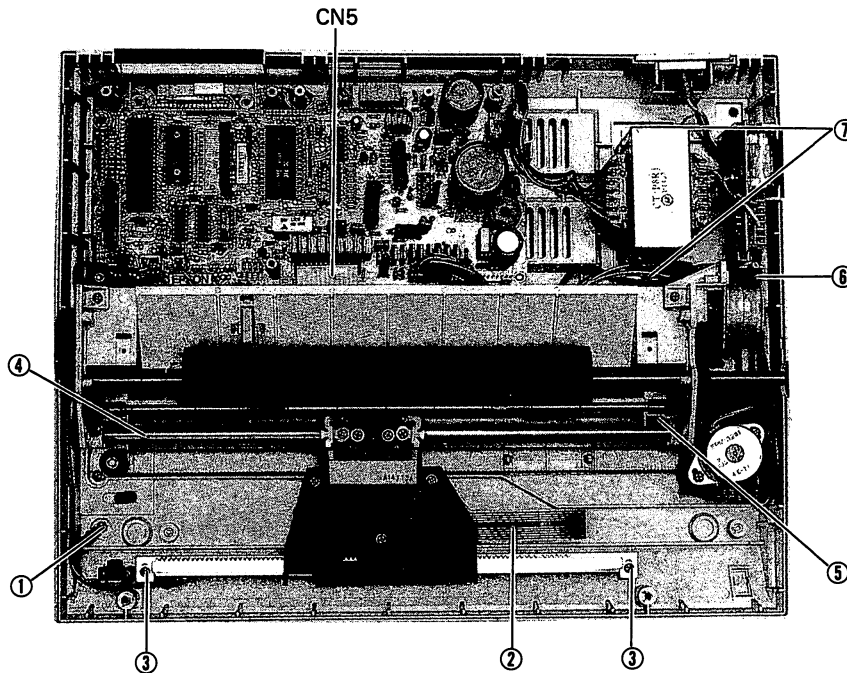

Fig. 4-15. Printer Circuit Board Removal
4.2.16 Printer Circuit Board Removal (Fig. 4-15 and 4-16)